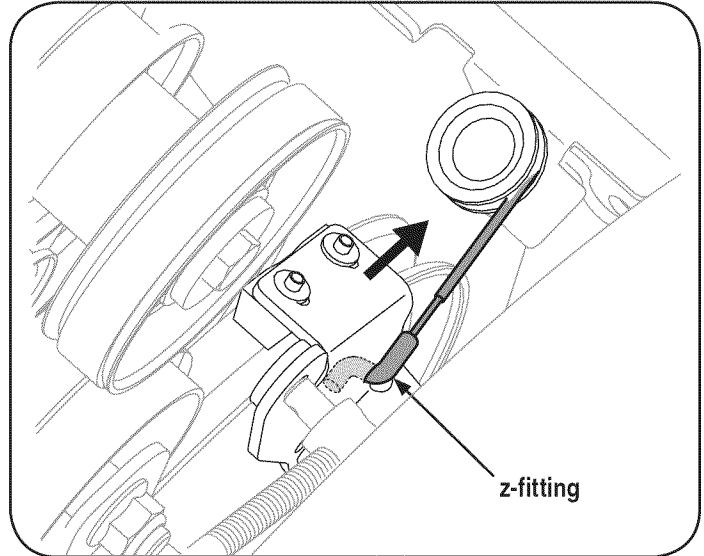

Figure 33
- Pull the brake bracket assembly towards the cable guide roller and unhook the auger cable z-fitting. See Figure 33.